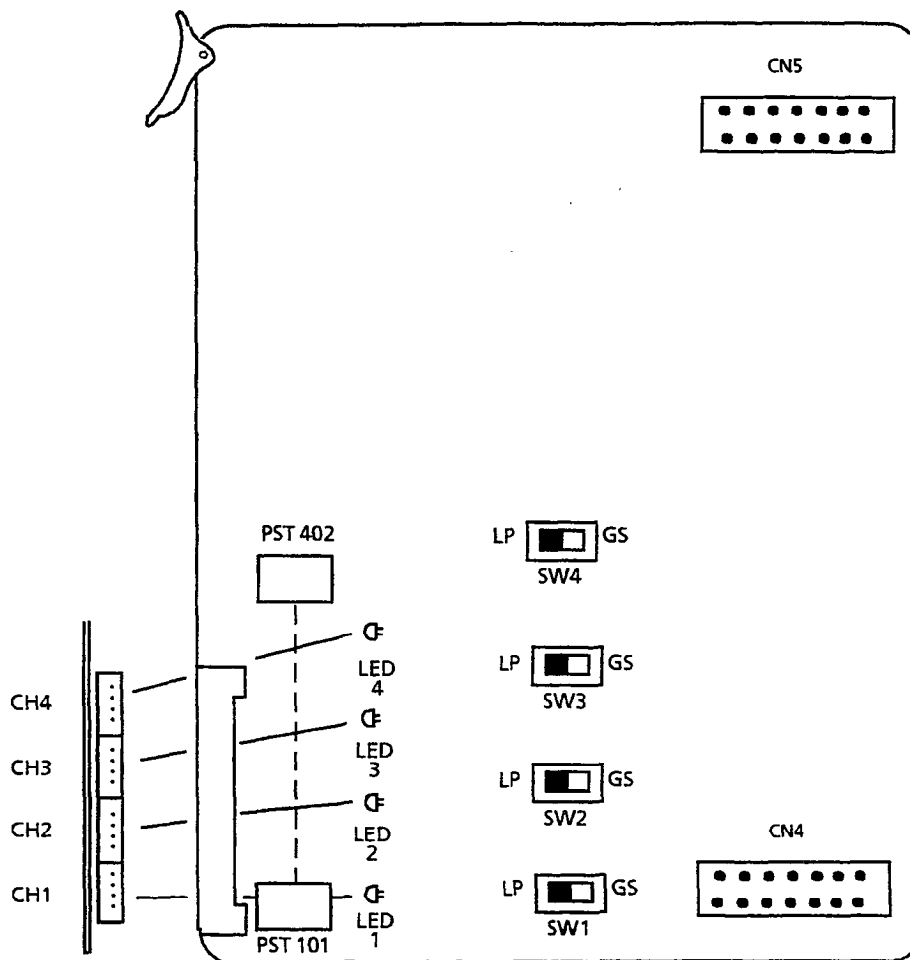

Figure 3-76 COI-F(4)-30 KTU Switch Layout
The COI-F(4)-30 KTU contains four switches (designated SW1 ~ SW4) for the selection of trunk type (Loop or Ground Start). Each switch is associated with an individual circuit. The LEDs are located on the back of this COI KTU. Red LEDs (1~4) indicate the status of the circuit. Refer to Figure 3-76 - COI-F(4)-(30) KTU Switch Layout.